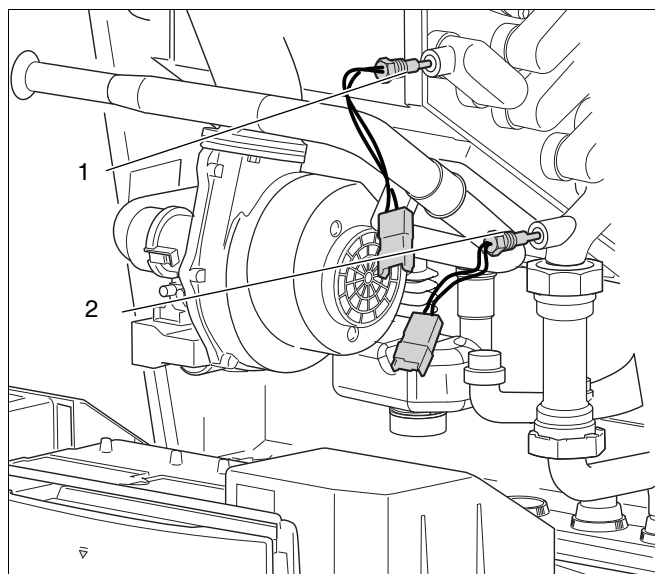

fig. 16 Replacing the supply/return sensors
Supply sensor see fig. 16, pos. 1.
Return sensor see fig. 16, pos. 2.